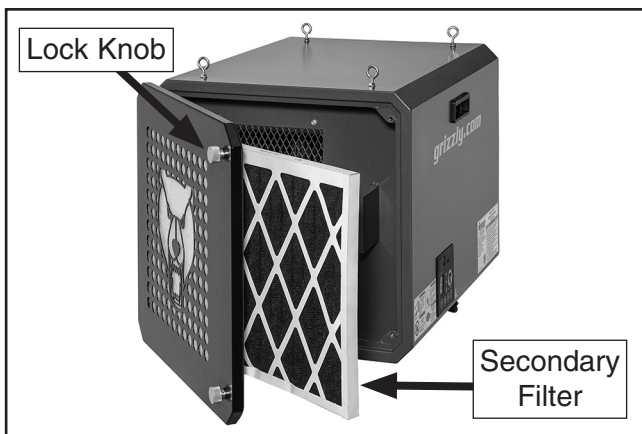

Figure 26. Location of secondary filter on T33150.
6. Unscrew lock knobs on exhaust side of machine to open filter access door and remove secondary filter (see **Figure 26**).